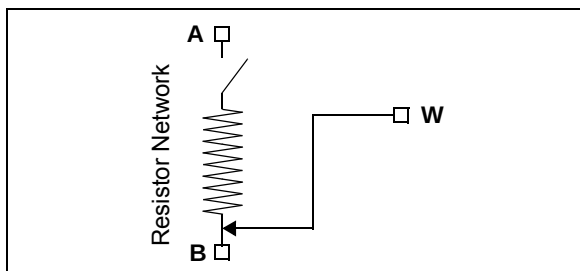

**FIGURE 5-2:** Hardware Shutdown Resistor Network Configuration.
- The P0W and P1W terminals are simultaneously connect to the P0B and P1B terminals, respectively (see Figure 5-2)